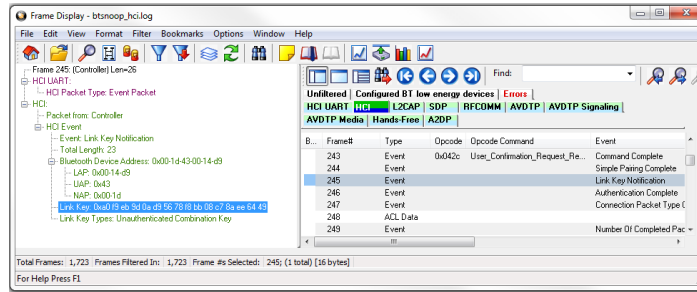

Figure 11 - Frame Display Showing Link Key Notification Event with the Link Key
The Link Layer (LL) protocol manages the *Bluetooth* low energy radio transmissions and is involved in starting link encryption. To observe the decoded LL commands, click on the **Frame Display LE LL** tab, search for and select ControlPkt “LL_ENC_REQ”. This command should originate with Side 1, the initiator of the encryption link. In Figure 11 Frame# 39,617 is selected in the Summary pane and we see the decoded LE LL frame is display in the **Decoder** pane. Shown in this frame packet is the SKDm that is the Master Session Key Diversifier (SKDmaster). In Frame# 39,623 you will find SKDslave that is combined with SKDmaster to create the Session Key (SK). Both SDKs were created using the LTK. Frame# 39,635 through 39,649 in the **LE LL** tab completes starting of the encryption process. After the slave sends LL_START_ENC_RSP (Frame# 36,649) the *Bluetooth* devices can exchange encrypted data, and the ComProbe sniffing device can also receive and decrypt the encrypted data because the appropriate “key” is provided in the **BPA 600 Datasource** window.